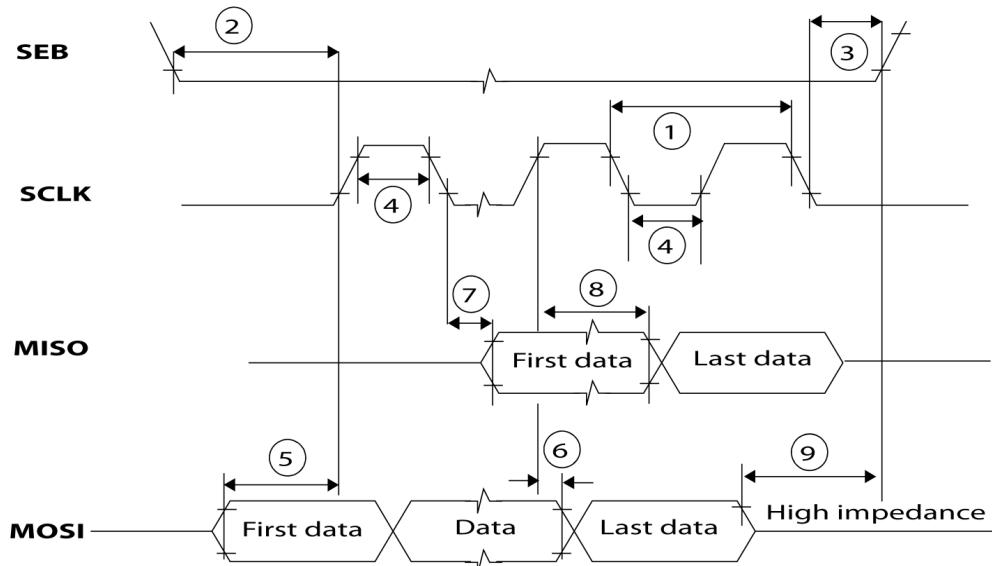

Figure 7. Typical SPI timing chart
SPI timings are described in Table 7 and illustrated in Figure 7. The SPI timing diagram, with the temperature and supply voltage conditions described in this document, and a maximum load capacitance,  $CL = 20 \text{ pF}$ .
6. The numbers under the Notes heading refer to the corresponding numbers in Figure 7.